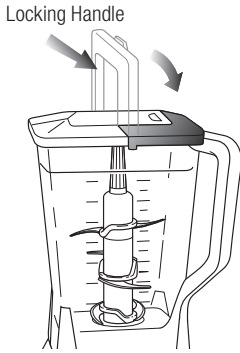

Fig. 5
- 8 Holding the lid by the handle in the upright position, place it on top of the pitcher aligning the arrow (▼) located on the lid with the arrow (▲) located on the bowl's handle. (Fig. 5)